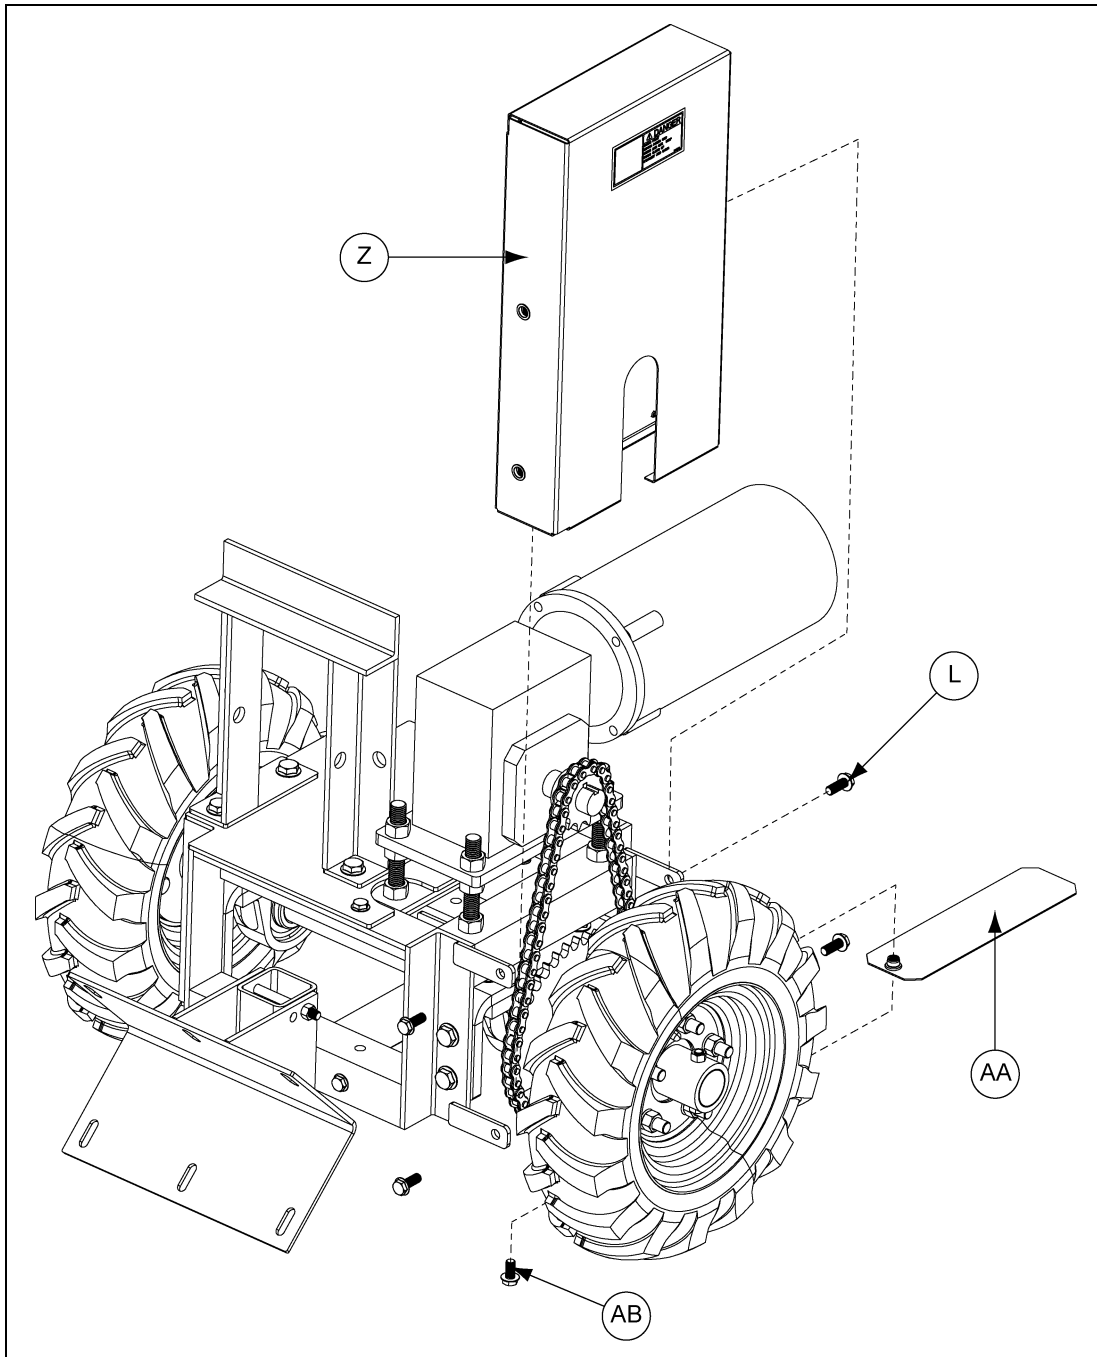

Figure 4J
20. Install the top chain guard assembly (Z) to the tractor frame using four (4) 3/8"-16 x 1" flange bolts (L). Slide the bottom chain guard assembly (AA) through the slot on the top chain guard and secure it with a 3/8"-16 x 3/4" flange bolt (AB). (See Figure 4J.)